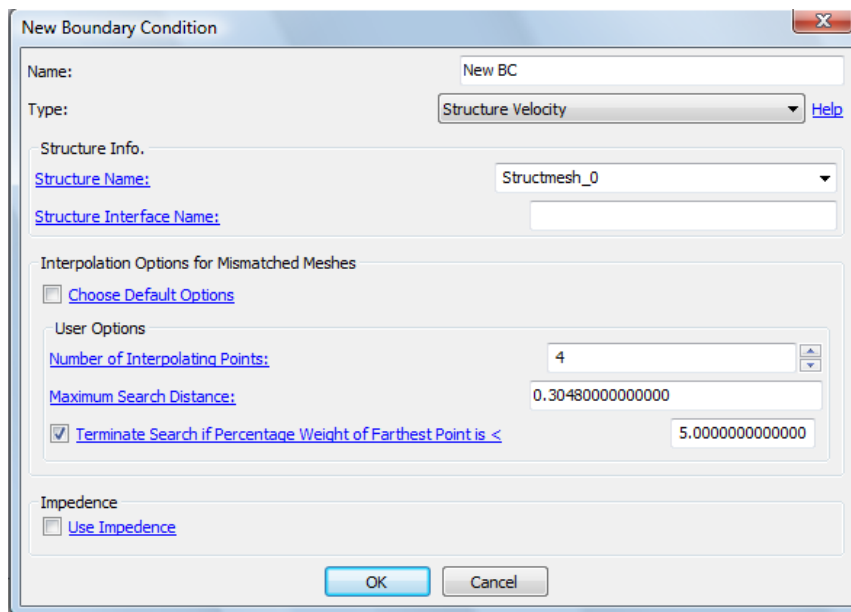

Figure 6.20 Structure Velocity BC.
Structure velocity Boundary Condition is applied when the structural vibration frequency response data is known from the FEA analysis of the structure. Refer to Section 5.1.2 for details on how to load frequency response data. (Figure 6.20.)
6.5.8.1. Structure Name Select the structure name from which the Boundary Conditions are applied. (Figure 6.20.)
the element. **If this field is left blank, the structure velocity is applied directly from the structure. This is the default case when the whole structure is assumed to be in contact with fluid.**(Figure 6.20.)
6.5.8.4. Use Impedance When this option is enabled, the impedance (Z) relates the pressure (p) at the surface of the acoustic material to the particle normal velocity (v_{ni}) and the structure velocity (v_{n_wall}). Refer Section 6 for the definition of impedance implemented in *Coustyx*. The impedance (Z) is defined by selecting any of the frequency dependent types: *Constant*, *Table*, or *Script*. (Figure 6.20.)